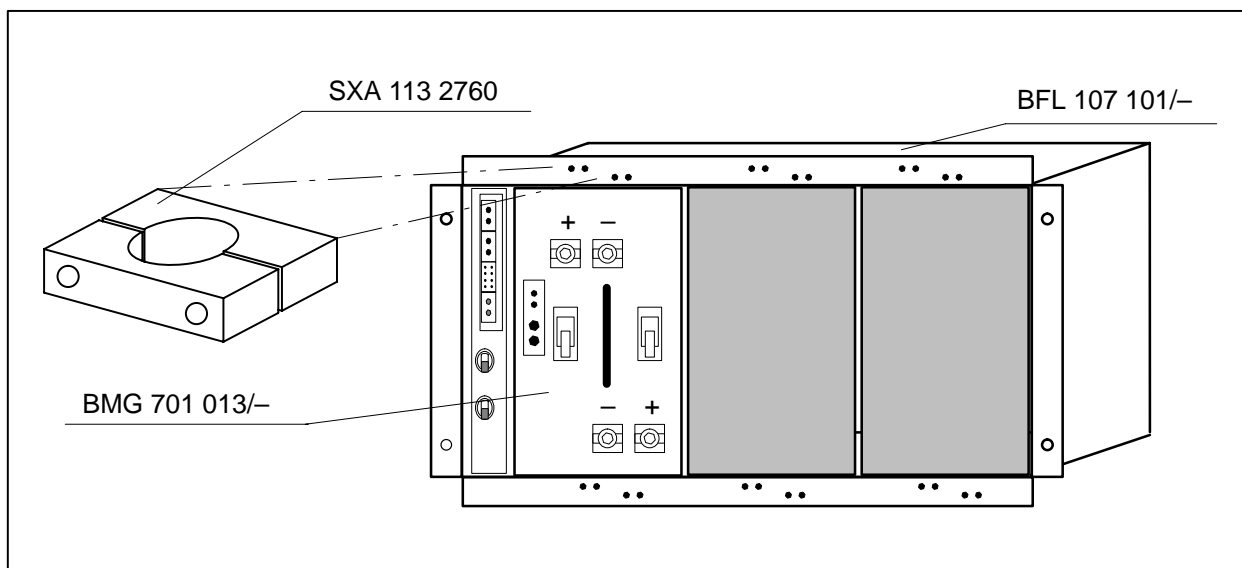

Figure 2
13. Secure all cables that come in and go out from the interconnection module using cable clamp SXA 113 2760 which is attached with screws 03/SBA 131 050/0450 to the shelf frame. Refer to figure 2 below.